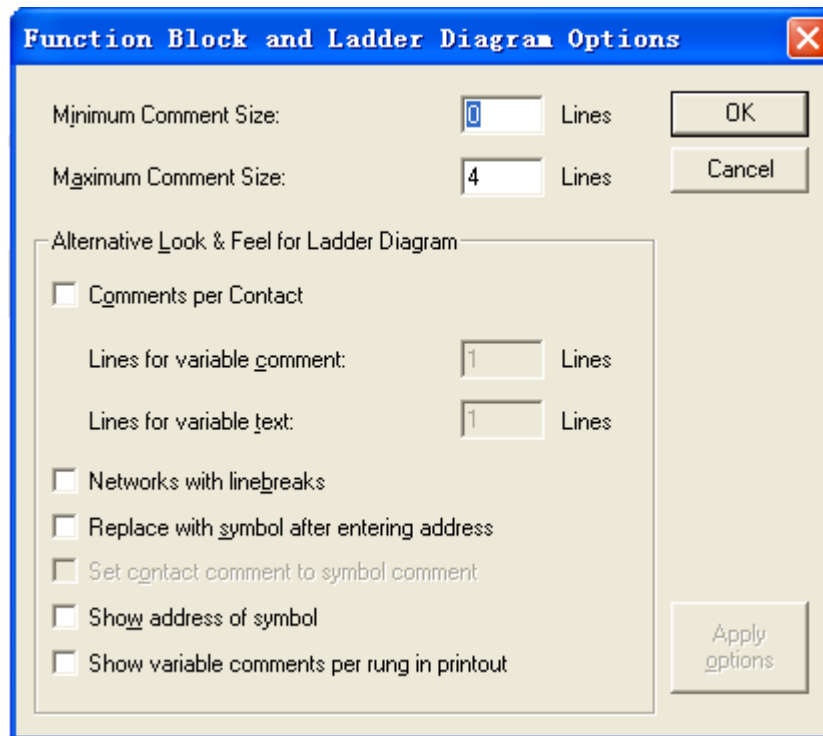

Figure 2-3-14 “Extras” Menu (2)
- **Options:** In a LD, use the “Options” menu to open a dialog “Function block and Ladder Diagram Options”, as shown in figure 2-3-14. In the dialog different options for LD POU may be set. Refer to section 7.4.9 for detailed options.